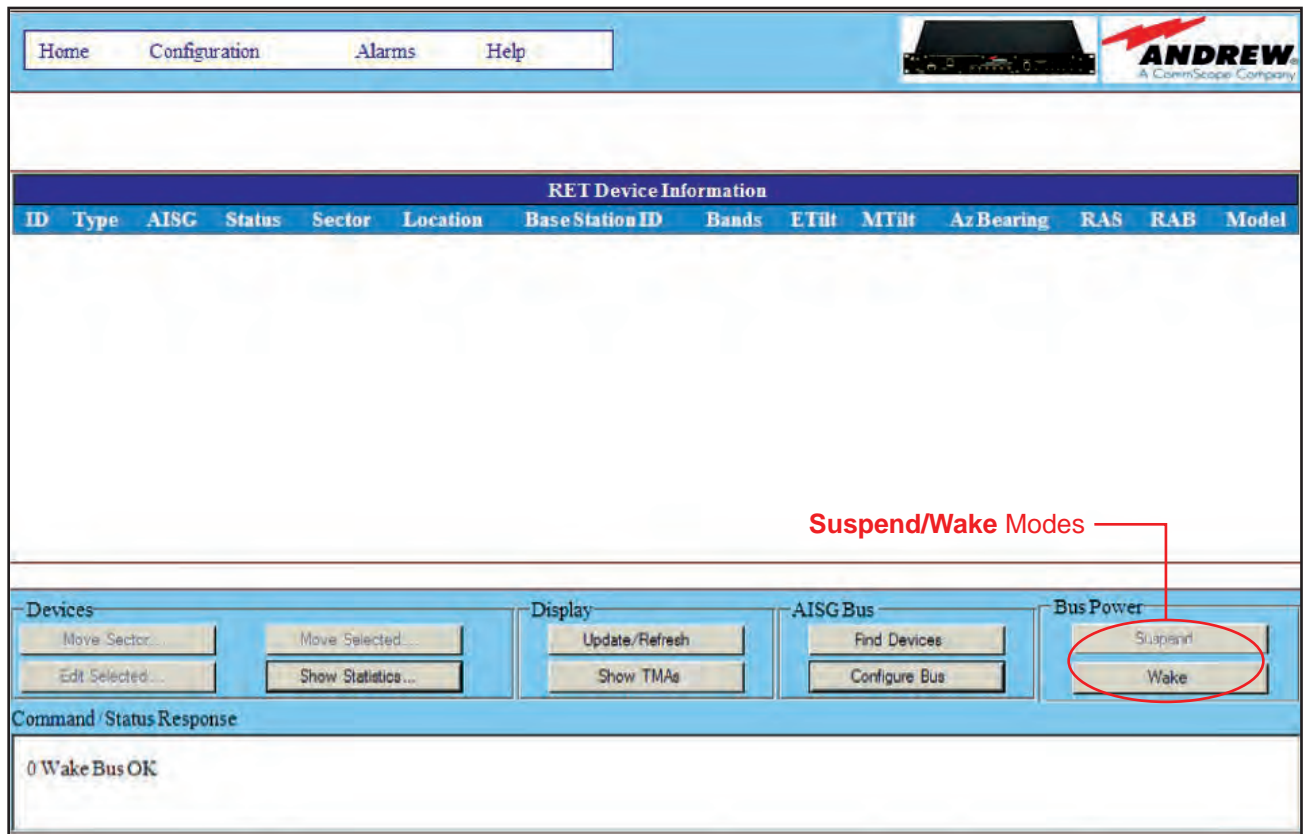

Figure 1-9. ATC300-1000/2000 Main Screen.
- Voltage can also be restored by clicking on the **Wake** button on the controller's main screen (Figure 1-9)